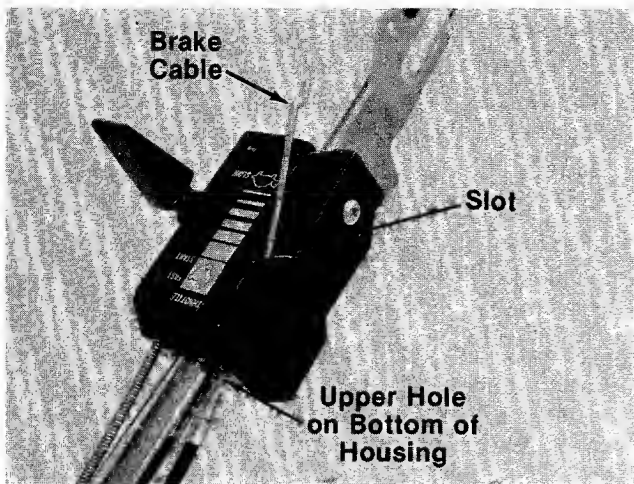

FIGURE 4.
6. Place the end of the brake cable into the upper hole on the bottom of the throttle control housing, and through the slot as shown in figure 4. Be careful not to bend or kink the cable.